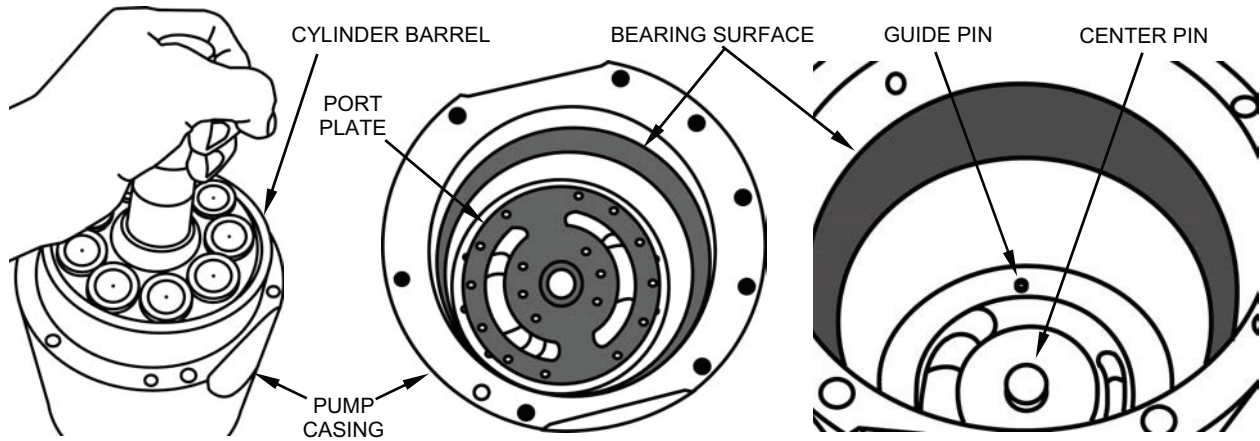

Figure 25. Removing Cylinder Barrel from Pump Casing.
- k. Remove the cylinder barrel from the pump casing (see Figure 25). Place on a clean surface.